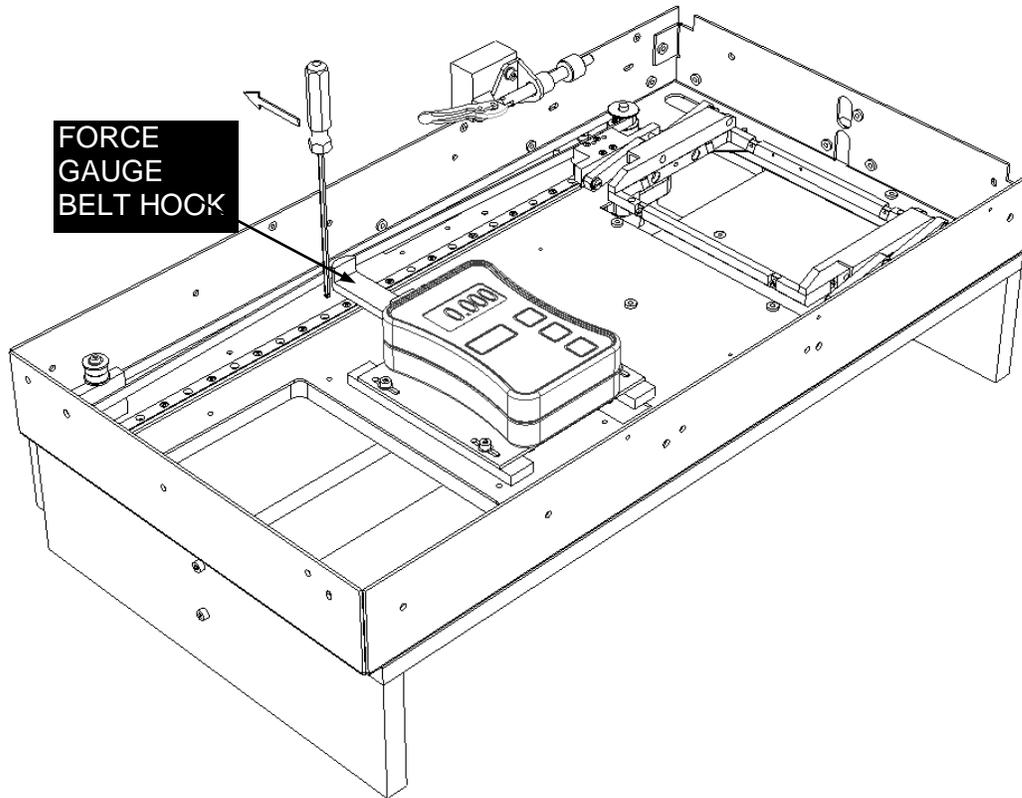

Figure 12-60: Pushing Belt off Belt Hook
7. Before taking each force reading, using an Allen Key, gently push the Belt off the end of the Force Gauge Belt Hook by 1 to 2 mm and then reposition it. This is to ensure that no sideways force from the belt is being measured (Figure 12-60).